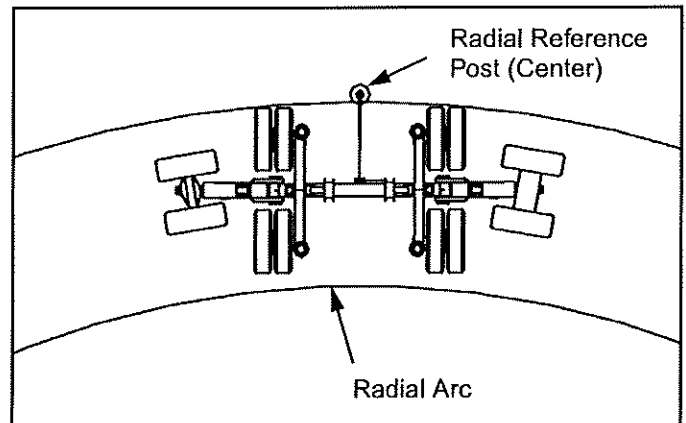

Figure 35
3. Set the radial reference post in the center of the radial arc with the reflector tape facing away from conveyor (Figure 35).